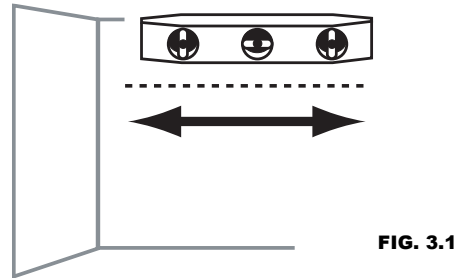

FIG. 3.1
- Draw level line equal to shelf length for top shelf onto back closet wall (Fig. 3.1) (*Shelving will cover lines drawn onto wall*).
- Draw level line equal to shelf length for all lower (A) shelves onto back closet wall (Fig. 3.1).